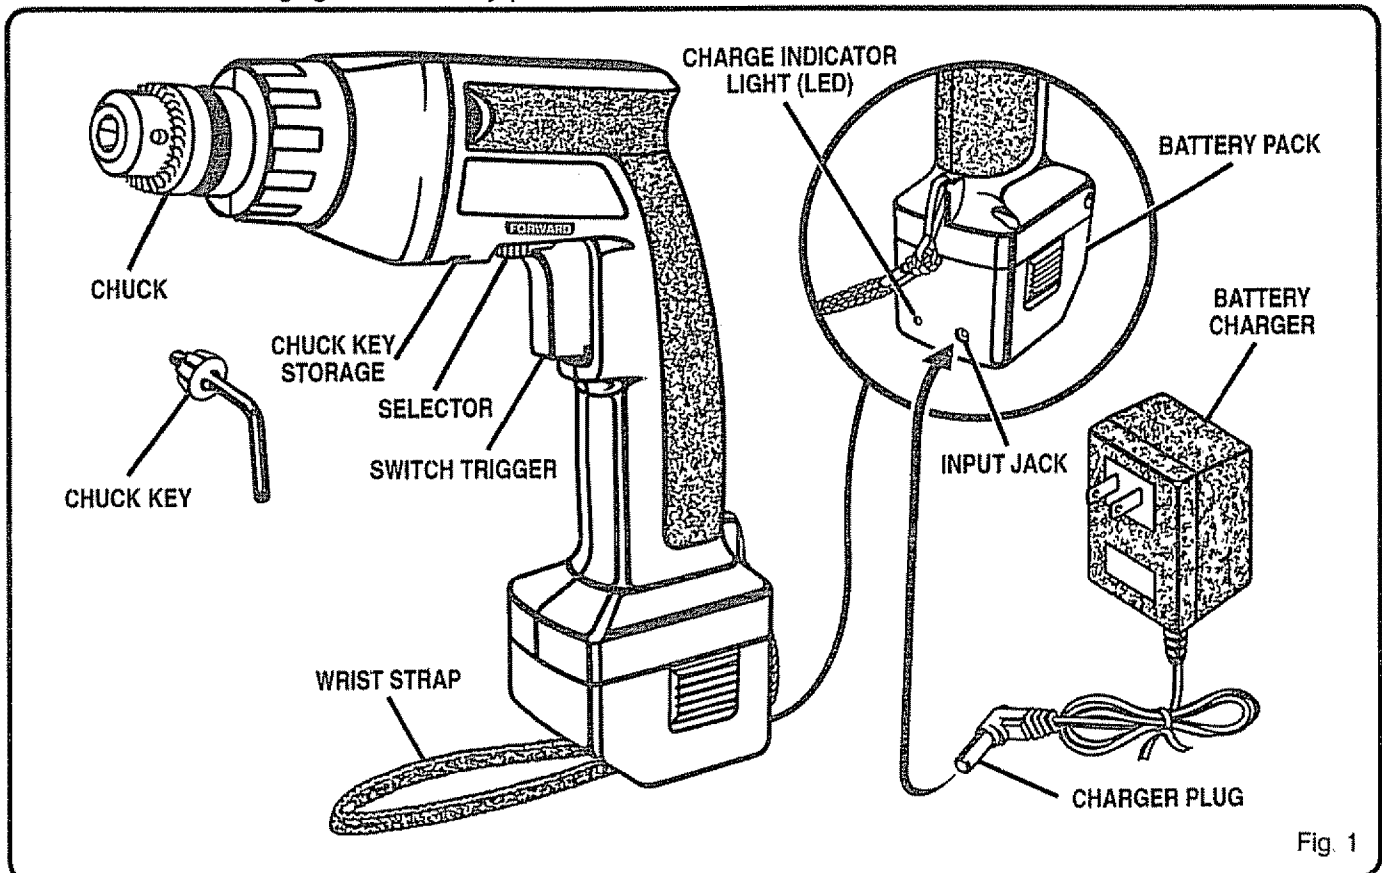

Fig. 1
Before attempting to use your drill, familiarize yourself with all operating features and safety requirements. See Figure 1.
- Connect charger to battery pack by inserting charger plug into input jack. As shown in figure 1, input jack is located on the back side of battery pack.
*See Figures 1 and 3.*